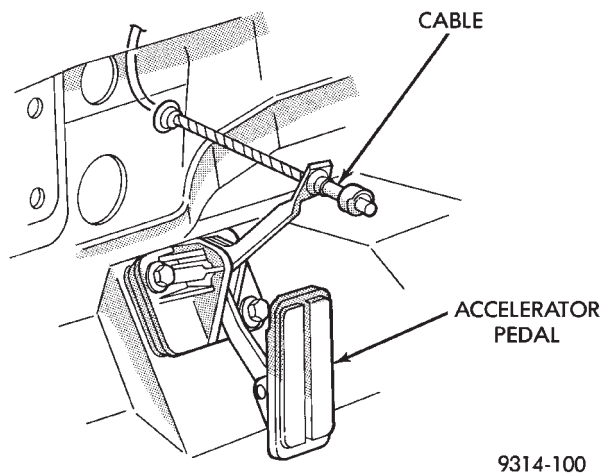
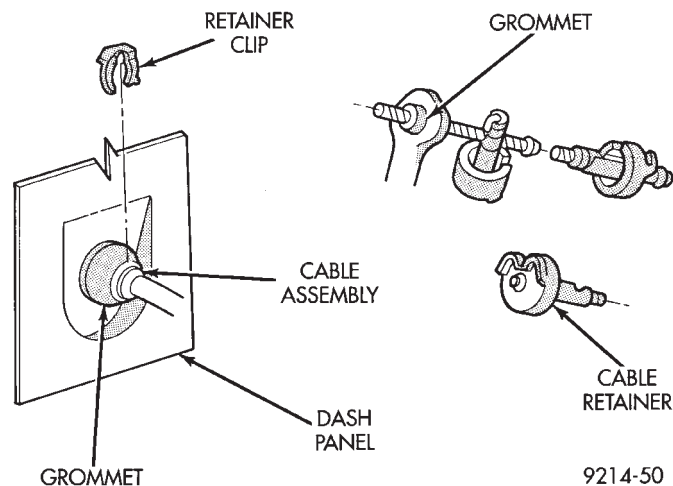

Fig. 1 Accelerator Pedal and Throttle Cable
Fig. 2 Throttle Cable Removal/Installation
(1) Working from the engine compartment, hold the throttle body throttle lever in the wide open position. Remove the throttle cable from the throttle body cam.
(2) From inside the vehicle, hold up the pedal and remove the cable retainer and throttle cable from the upper end of the pedal shaft (Fig. 1 and Fig. 2).
(2) From inside the vehicle, hold up the pedal and remove the cable retainer and throttle cable from the upper end of the pedal shaft (Fig. 1).
(3) Remove retainer clip from throttle cable and grommet at dash panel (Fig. 2).
(4) From the engine compartment, pull the throttle cable out of the dash panel grommet. The grommet should remain in the dash panel.
(5) Remove the throttle cable from throttle bracket by carefully compressing both retaining ears simultaneously. Then gently pull the throttle cable from throttle bracket.